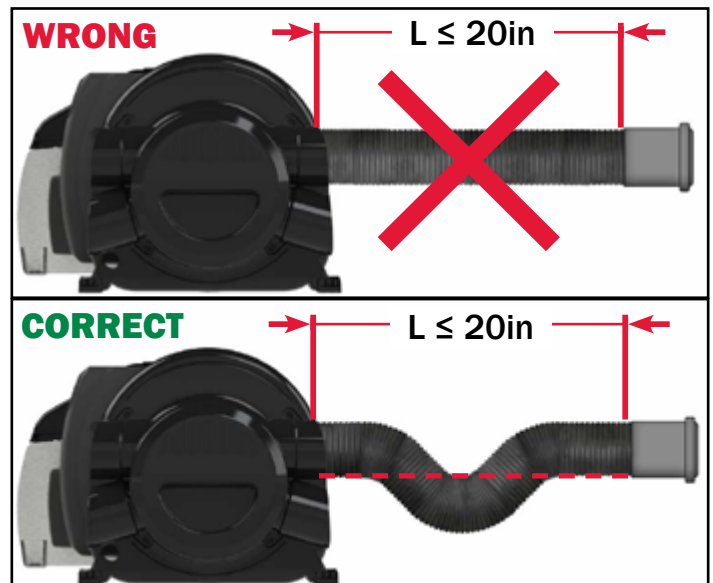

Figure 11
- If the duct length is less than 20in (50cm), form a U-shaped trap near the air outlet (Figure 11) to prevent unwanted interior heating when the system is only in hot water mode.